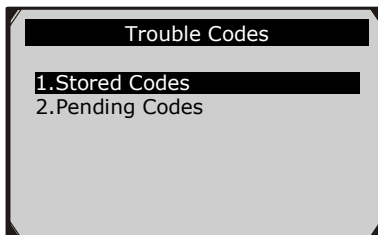

Figure 5.4
- 2) Use the **UP/DOWN** scroll button to select **Stored Codes** or **Pending Codes** from the **Read Codes** menu and press the **OK** button. (Figure 5.4 )